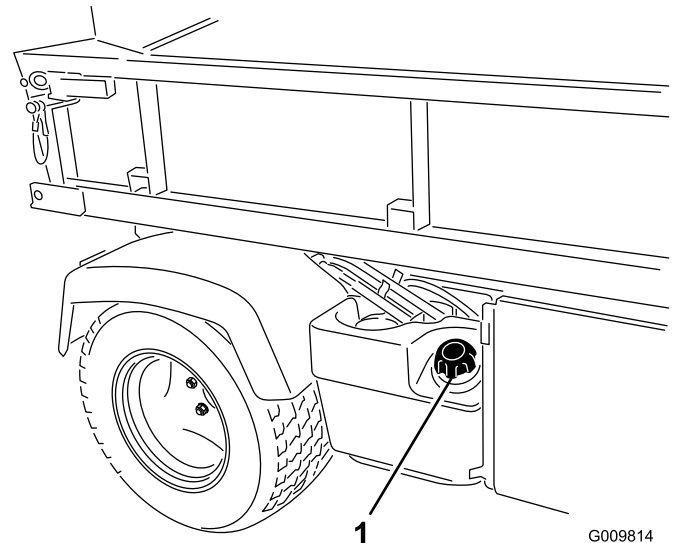

Figure 16
2. Remove the fuel-tank cap (Figure 16).